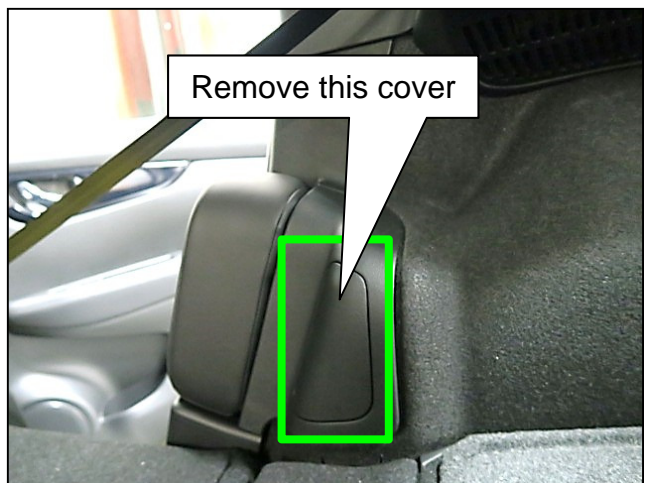

Figure 5
5. On the right hand side of the vehicle, remove the trim cover shown in Figure 5, using a finesse stick.